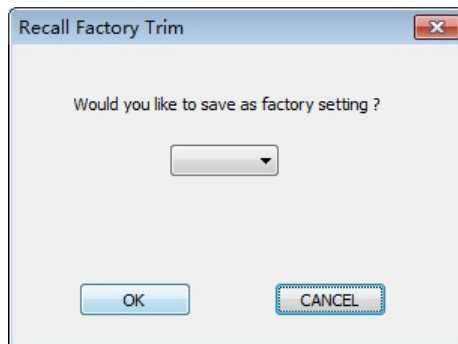

Figure 5.37 Reset to factory settings prompt
1. Click the "Calibration"->"restore factory settings"->"restore to factory settings", pop up "restore to factory settings" window, as shown in Figure 5.37: